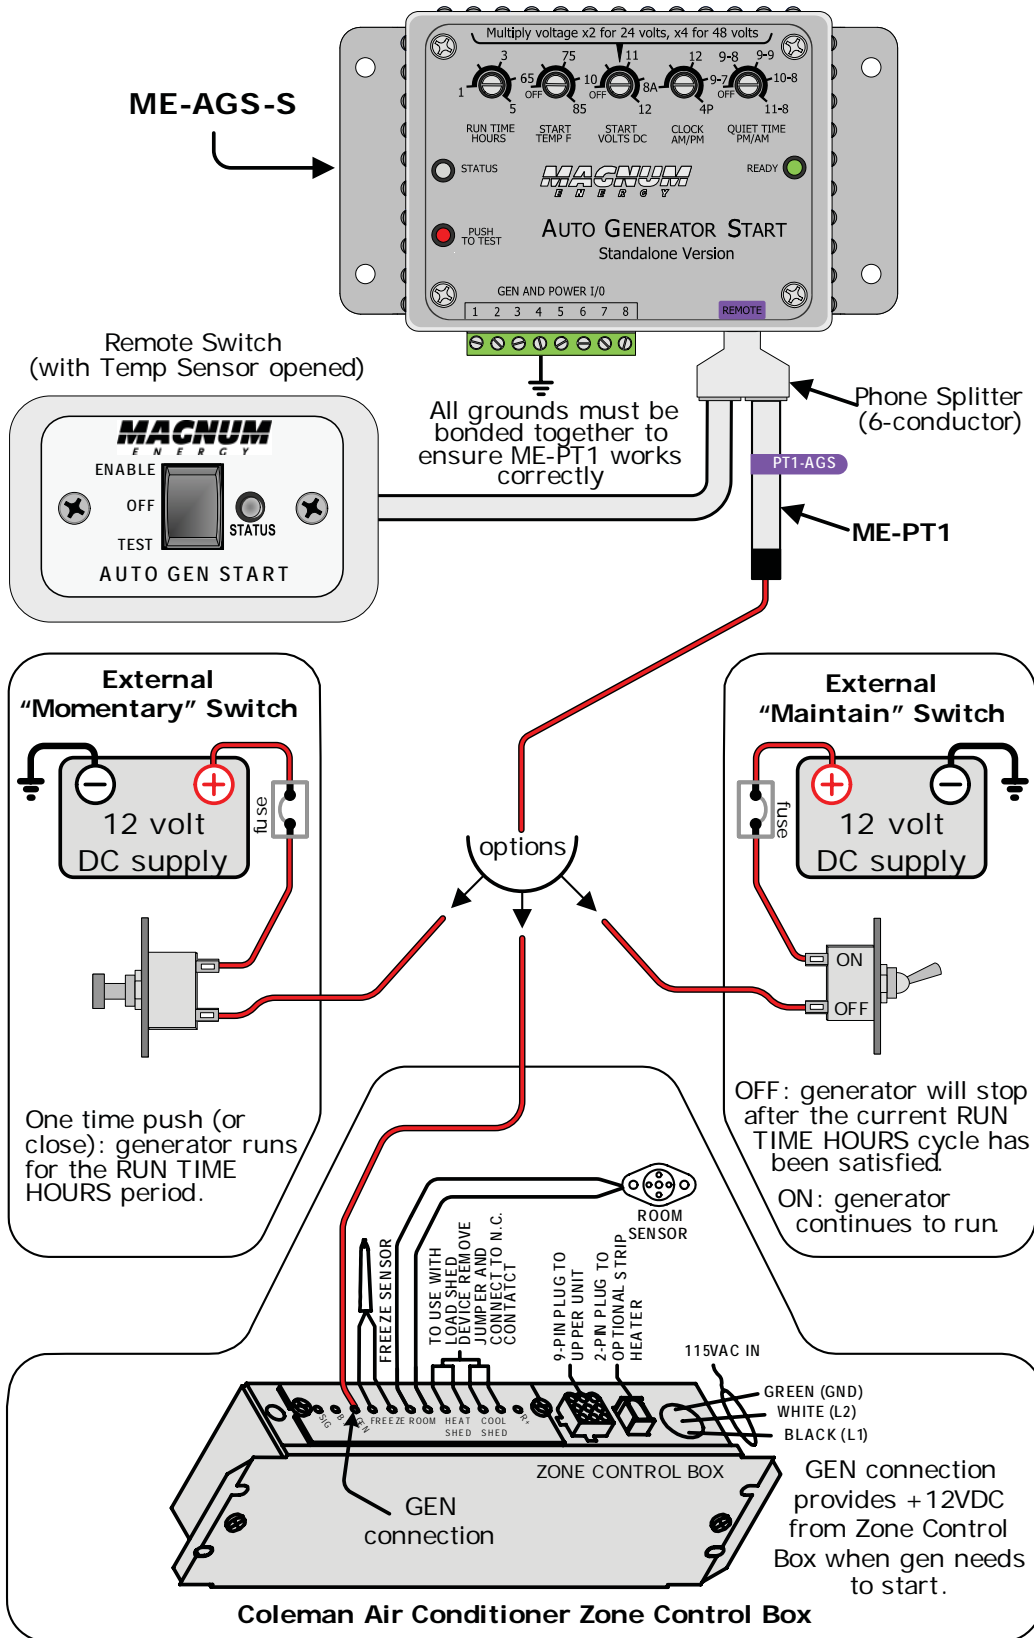

Figure 5, ME-PT1 to ME-AGS-S Installation
- Refer to Figure 5 and the following steps to install the ME-PT1: